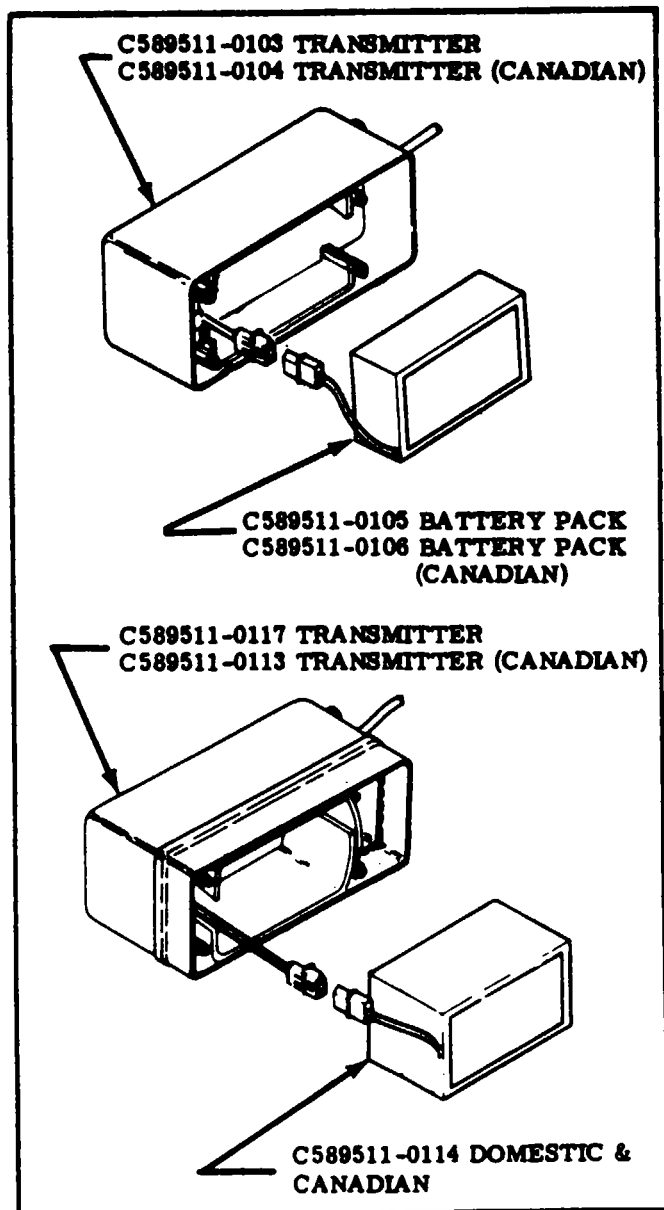

Figure 16-19. BATTERY PACK INSTALLATION.
16-116. REMOVAL AND INSTALLATION OF BATTERY PACK. (See figure 16-19.)
- d. Place new battery-pack in the transmitter with four batteries as shown in the case in figure 16-19.
- e. Connect the electrical connector as shown in figure 16-19.